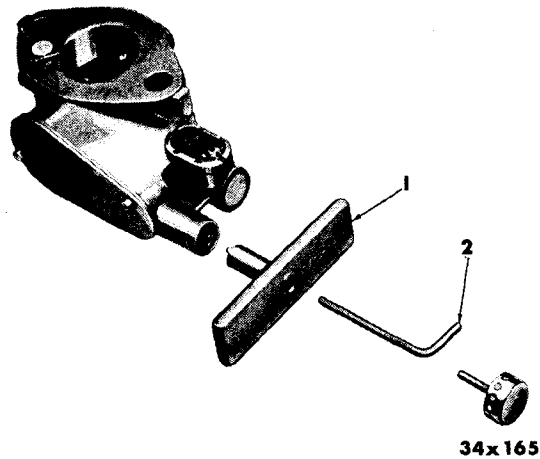

Figure 72 — King Seeley Adjusting Wrenches
special adjusting wrench (2) through the hollow wrench into the adjusting screw and turn the screw clockwise one turn (Fig. 72).
The stock numbers of the special wrenches (Fig. 72) are as follows: